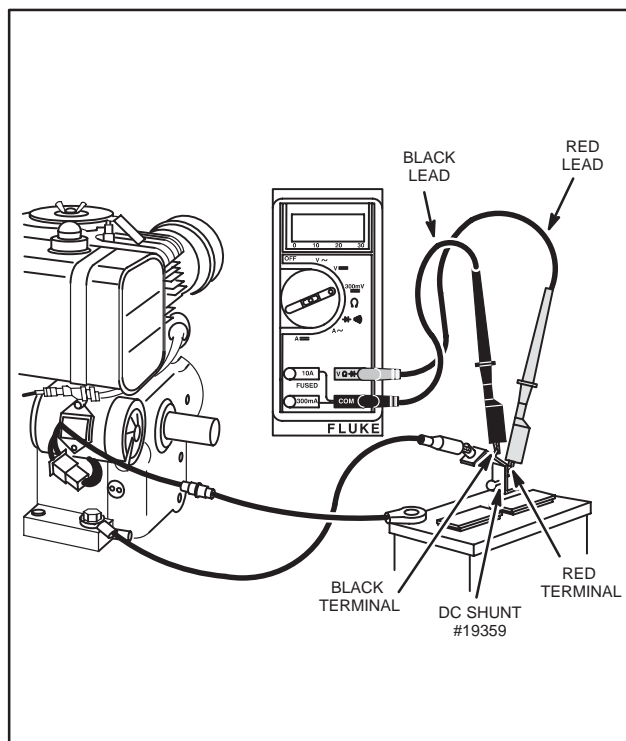

Fig. 783 – TESTING REGULATOR-RECTIFIER 16 AMP SYSTEM WITH DC SHUNT
The DC Shunt must be installed on the – (negative) terminal of the battery, Fig. 783. All connections must be clean and tight for correct amperage readings.
- Insert RED test lead into  $V \Omega \rightarrow$  receptacle in meter and connect to RED post terminal on shunt, Fig. 783.
- Attach RED test lead clip to DC output terminal on regulator-rectifier, Fig. 783.